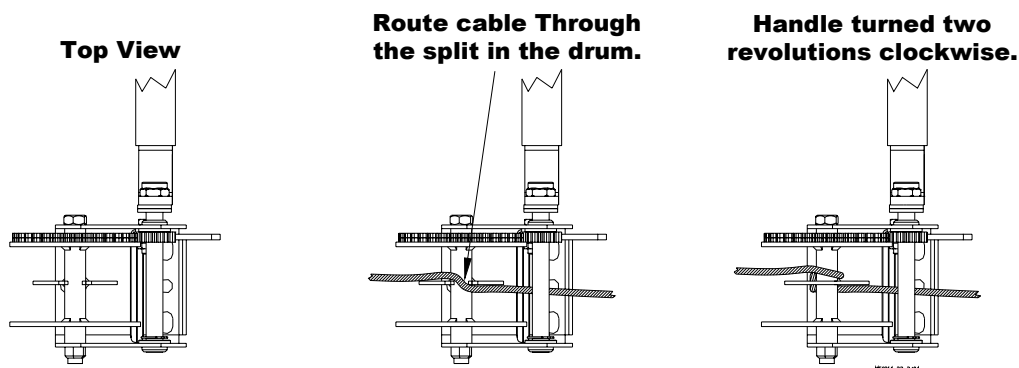

Figure 42. Winch cable wrap
3. Lay the cable through the split in the winch drum. Turn the winch handle clockwise two revolutions to wind some cable onto the winch drum, see figure 42.